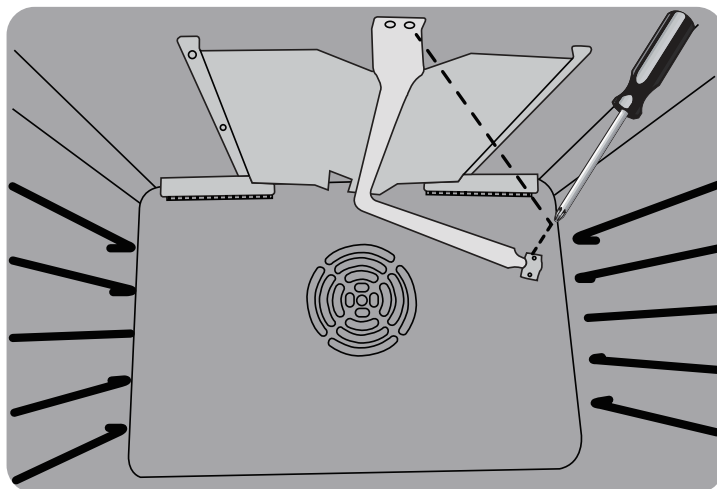

Figure 16
- 10 Remove the upper burner screw. Remove the burner from its connection against the back wall of the oven (see Figure 16). Be careful not to scratch or damage the connection wire that will remain connected throughout this procedure.